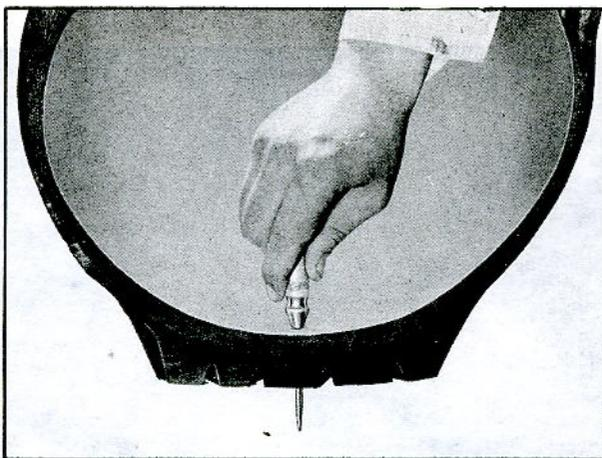

Fig. 11—Installing Needle in Tire Hole
- a. Clean awl needle and dip in Self-Vulcanizing Fluid. From inside of tire, force needle through tire until point extends beyond tread (fig. 11).